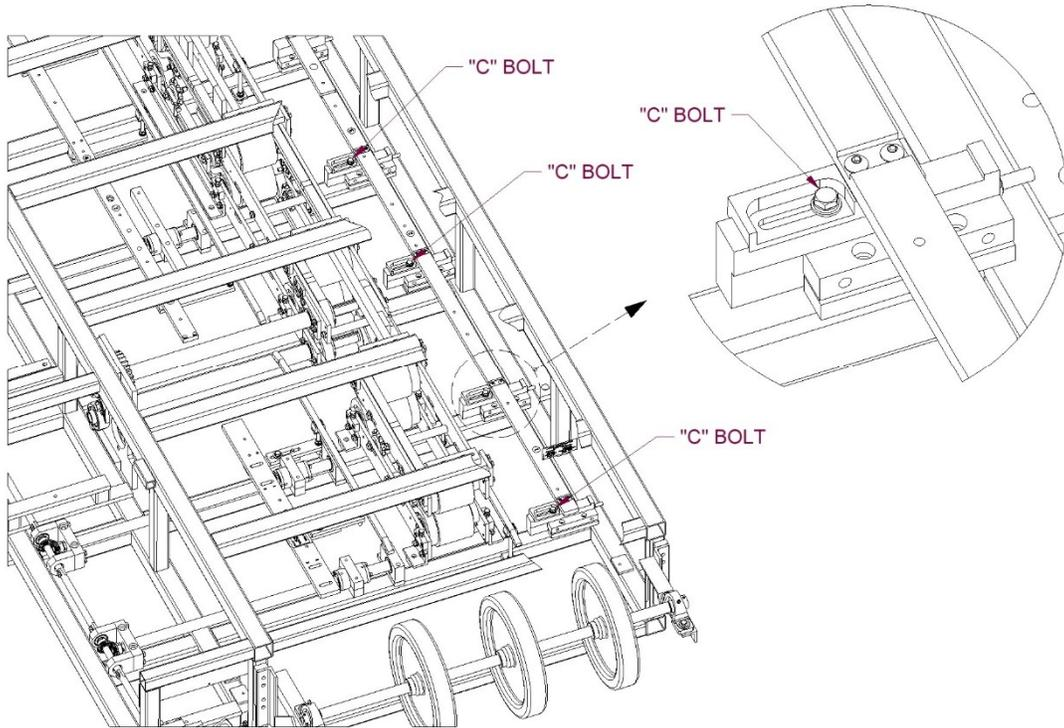

Figure 56: April 2009 and later
4. Loosen bolt “C” on the first 4 Slide Block assemblies (Figure 56).
5. Once all 4 bolts are loose, slide the Right Side Fixed Mount Rail #1 to the correct position (Figure 57), either “inboard” or “outboard”. Make sure that it is fully in position and then tighten the “C” bolts (Figure 56).